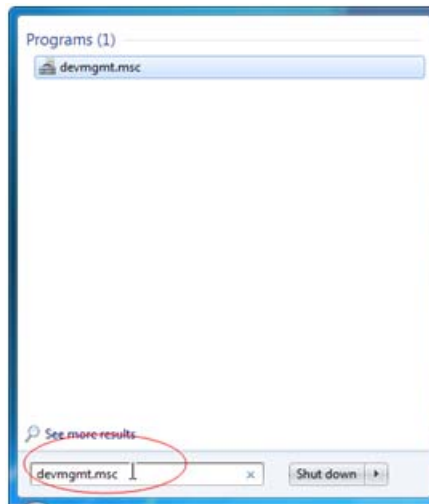

Figure 1-30: Search for devmgmt.msc
- Two USB cables connected to UART and JTAG ports of the Avnet MicroBoard and to the PC, as shown in Figure 1-30